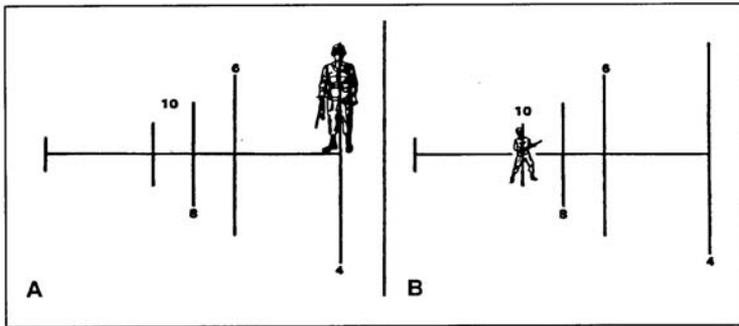

Figure 071-315-2308-2. Range determination using vertical lines (B)
(1) Place the left edge of the vehicle at the left side of the horizontal line (figure 071-315-2308-3).